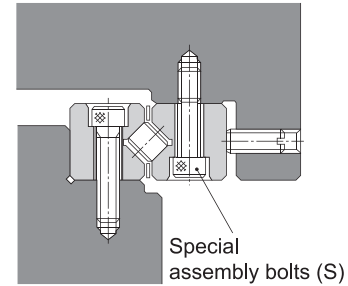
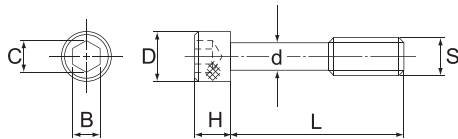

Figure 2
Figure 3 Special Installation Bolts
In addition, if the installation method shown in Figure 2 must be adopted structurally, the assembly bolts (S) of this track can use the special assembly bolts as shown in Figure 3.